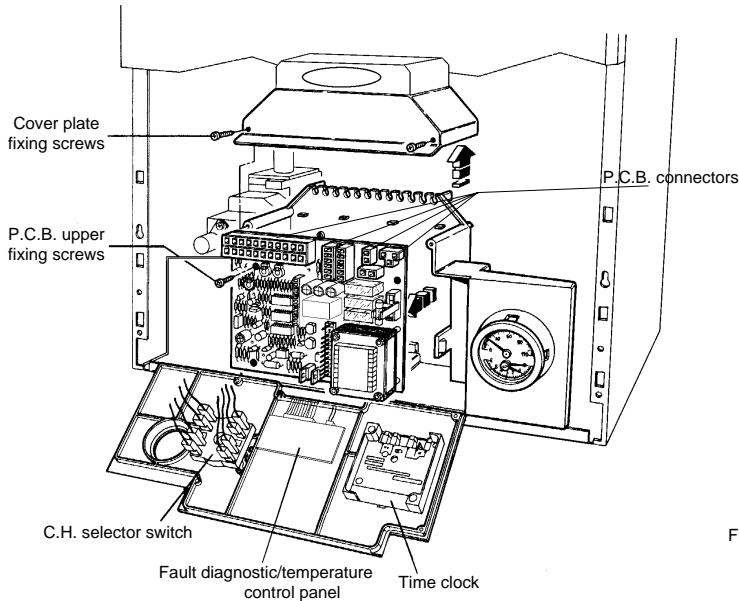

Fig. 39
- Unscrew two fixing screws on the P.C.B. top cover plate, lift and disconnect all connectors from P.C.B. (fig. 39).